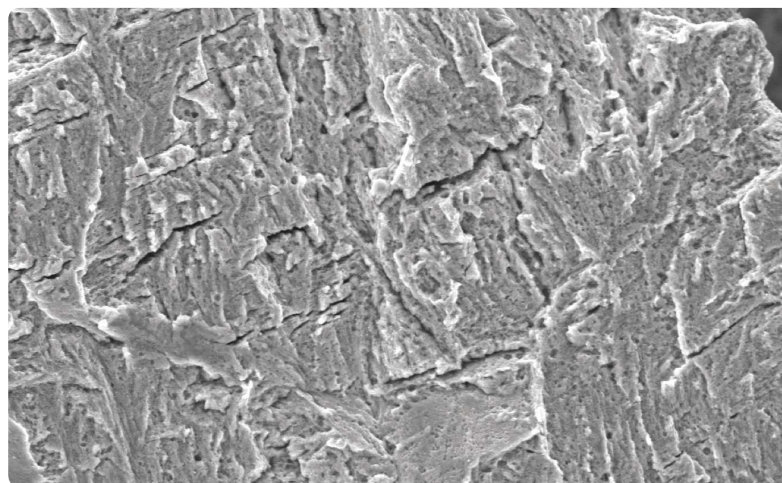

Figure 10—SE micrograph of the boxed area in Figure 9, showing fatigue striations.
Figure 9—Secondary electron (SE) micrograph of the left propeller shaft fracture surface, showing fatigue striations near a pore defect, after cleaning. The boxed area is shown in Figure 10.